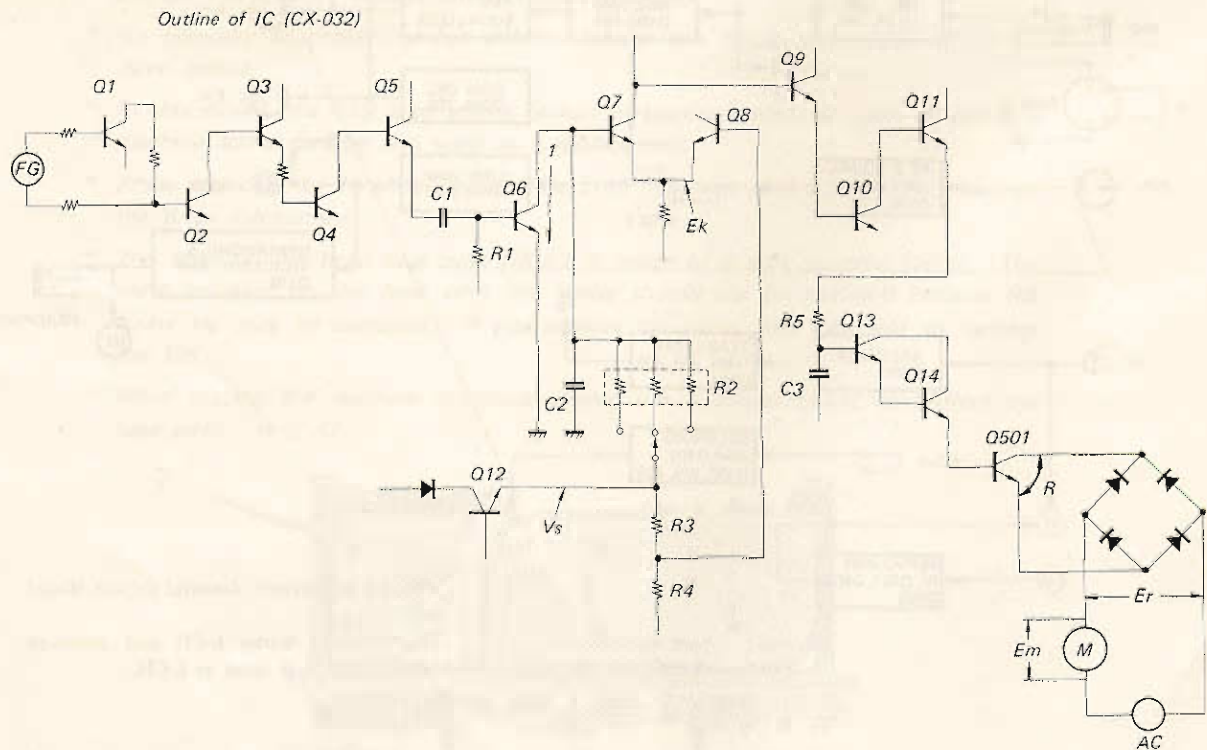
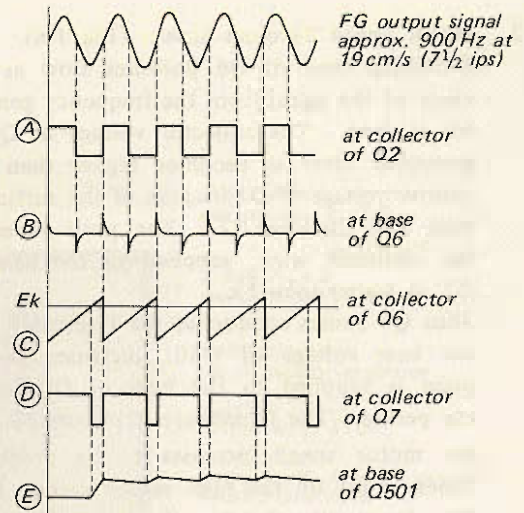

Fig. 1-3. Servo amplifier outline
Fig. 1-4. Waveform at each point
Servo amplifier which varies the impedance R operates as follows. See Figs. 1-3 and 1-4.
1. The sine wave is generated from the frequency generator whose frequency is varied according to the motor speed, and is supplied to the bases of Q1 and Q2. As the bias voltages of Q1 and Q2 are set to saturation region, the sine wave supplied from the frequency generator is waveshaped to the square wave as shown at (A) in Fig. 1-4.
2. The square wave supplied from Q2 is amplified by Q3, Q4 and Q5. It is supplied to the differentiation circuit consisting of C1 and R1 to obtain the pulse as shown at (B) in Fig. 1-4, and is supplied to the base of Q6.
4. V_s also charges C2 by the time constant of C2 and R2. The charged voltage is applied to the collector of Q6. As the pulse shown at (B) in Fig. 1-4 is supplied to the base of Q6, Q6 repeats ON and OFF. C2 discharges during Q6 is conductive as shown by the arrow 1 in Fig. 1-3. Thus sawtooth wave (C) in Fig. 1-4 is obtained at the collector of Q6.
5. The sawtooth wave is supplied to the base of Q7. As the emitter voltage E_k is kept constant, Q7 turns ON only when the peak value of the sawtooth wave is higher than E_k . When Q7 turns ON, the negative pulse (D) in Fig. 1-4 appears at the collector of Q7.
6. This pulse is amplified by Q9, Q10 and Q11, and its polarity is inverted to the positive. The positive pulse is supplied to the integrator consisting of R5 and C3, and is waveshaped as shown at (E) in Fig. 1-4. After being amplified by Q13 and Q14, it is supplied to the base of Q501. Here the motor speed is controlled by the impedance between the collector and emitter of Q501 varied by the amplified signal.